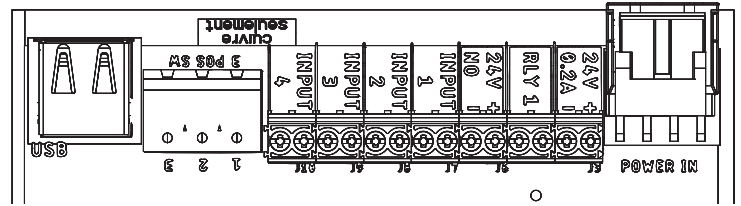

Figure 26
**NOTE:** Input and Output numbers are labeled on PCB. (Figure 26 on page 11)
Use green 2-position connectors on control board to add any necessary inputs. (Figure 26)